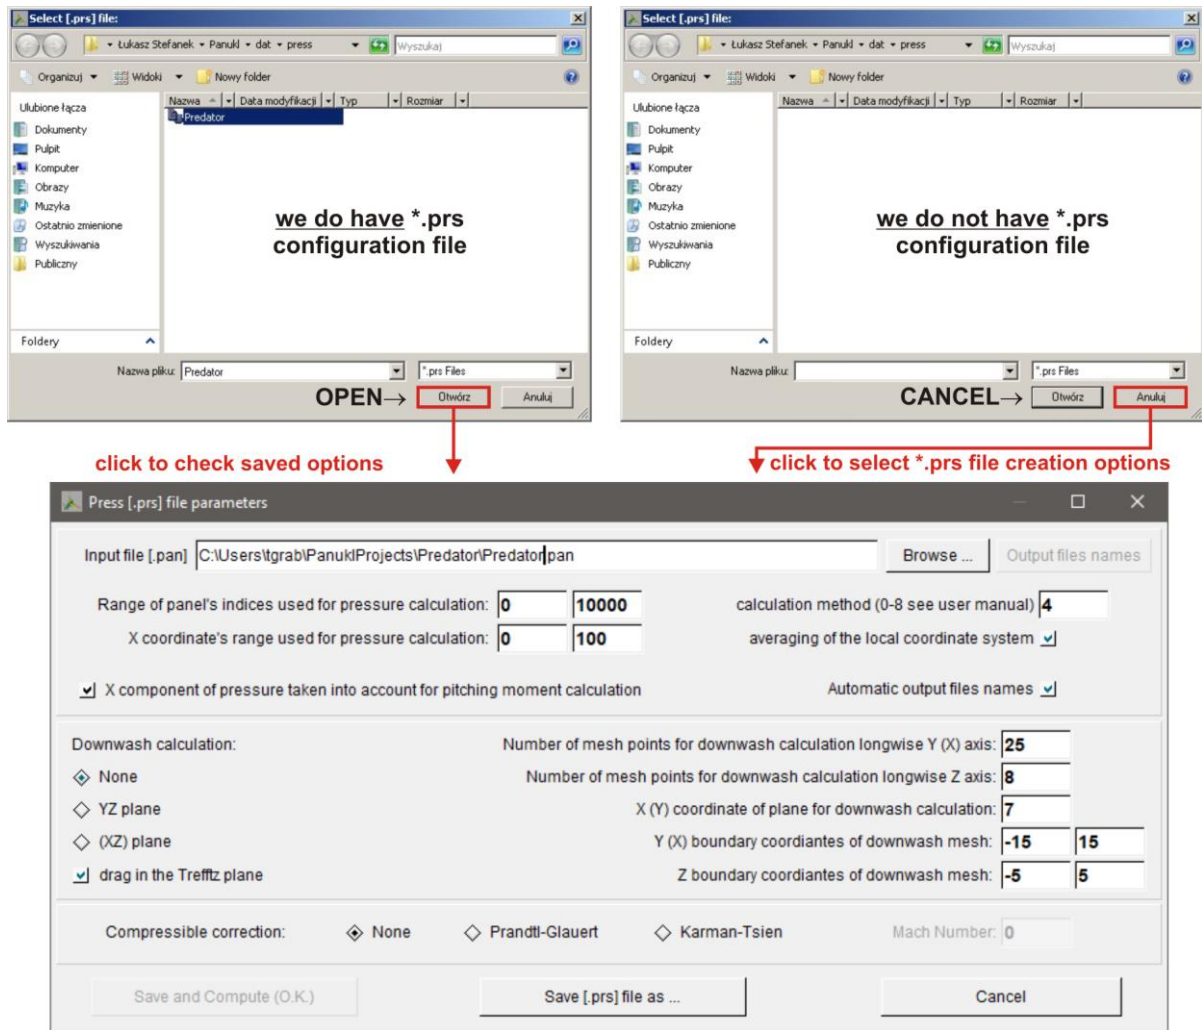

Fig. 17 – Dialog window to run program Press
**Option No. 1** – we do have saved on disk configuration file [.prs], Fig. 17
Run **Compute pressure distribution** and select saved configuration file [.prs] – file contains all necessary information to create output result files – \*.out, \*.txt, \*.eps. To open selected [.prs] file click **OPEN** button. Configuration window will appear (Fig. 17) where one can see saved [.prs] file creation options. To generate **output** files click **Save and Compute (OK)** button.
**Option No. 2** – we do not have saved on disk configuration file [.prs], Fig. 17
Run **Compute pressure distribution** and click **CANCEL** button when prompted for saved configuration file [.prs]. The configuration window will appear (Fig. 17) where user can select options to create **output** files – \*.out, \*.txt, \*.eps. To save current **output** files options to [.prs] file click **Save [.prs] file as**, to create **output** files click **Save and Compute (OK)** button.